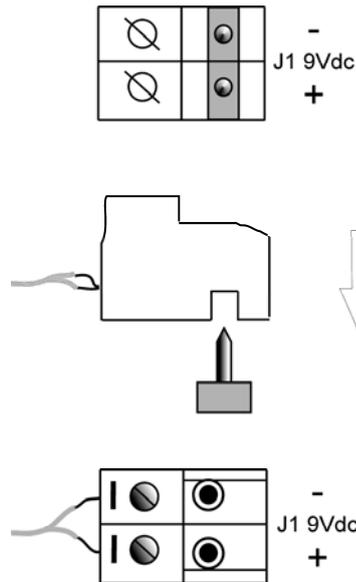

Figure B- 25: Figure B.18: AC Connection
2. Connect the Adaptor 230/9V to the J1 9VDC connector of the EL-2724 observing the correct polarity – see p. 110, Figure B- 25.